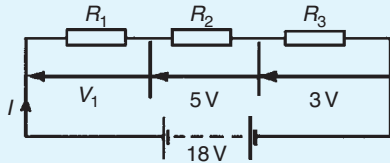

Figure 5.9
2. For the circuit shown in Fig. 5.9, determine the value of V_1 . If the total circuit resistance is $36\ \Omega$ determine the supply current and the value of resistors R_1 , R_2 and R_3